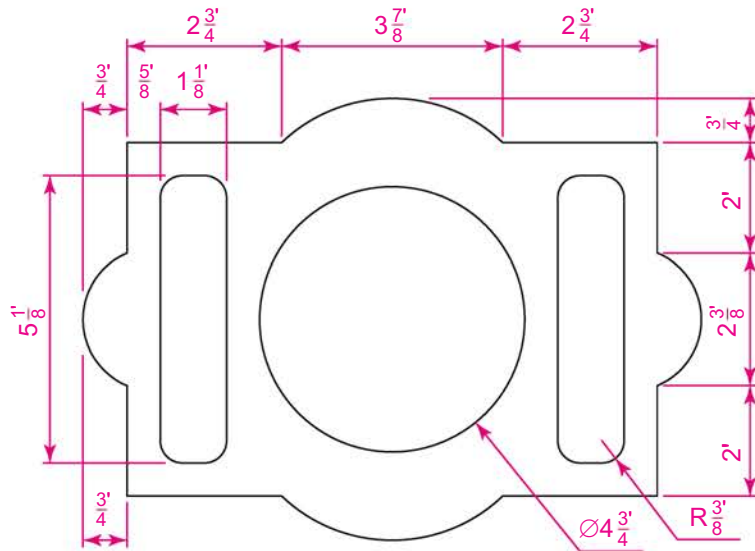

Fig. 12.32 Exercise 3
3. Construct and dimension the drawing Fig. 12.32.